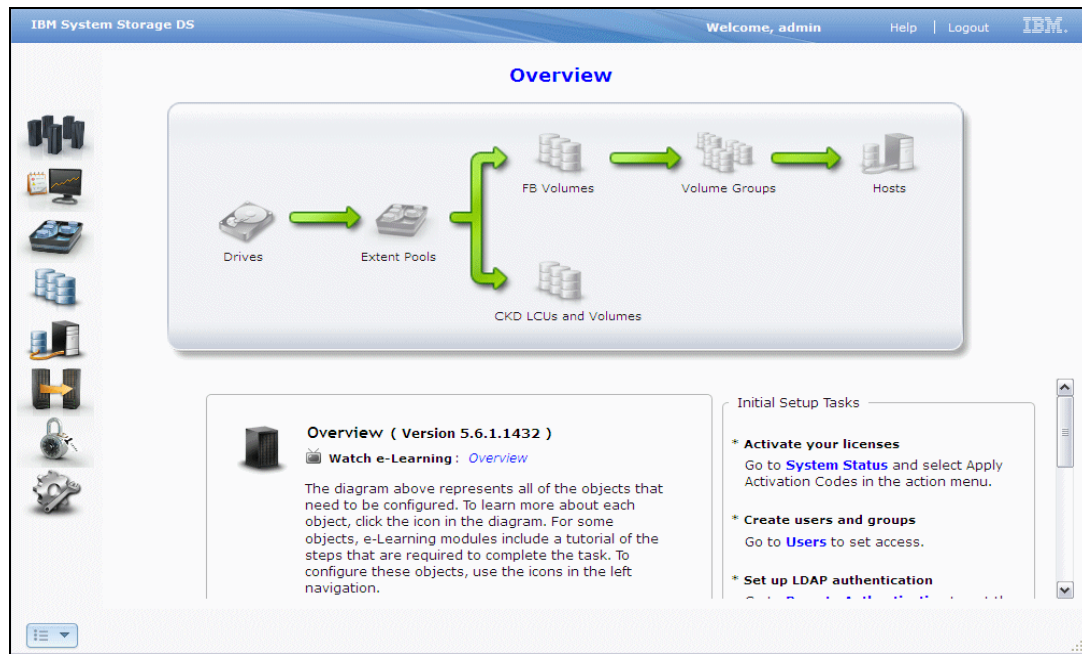

Figure 9-9 DS Storage Manager GUI main window
1. From the categories in the left sidebar, select **User Administration** under the section Monitor System as shown in Figure 9-9.